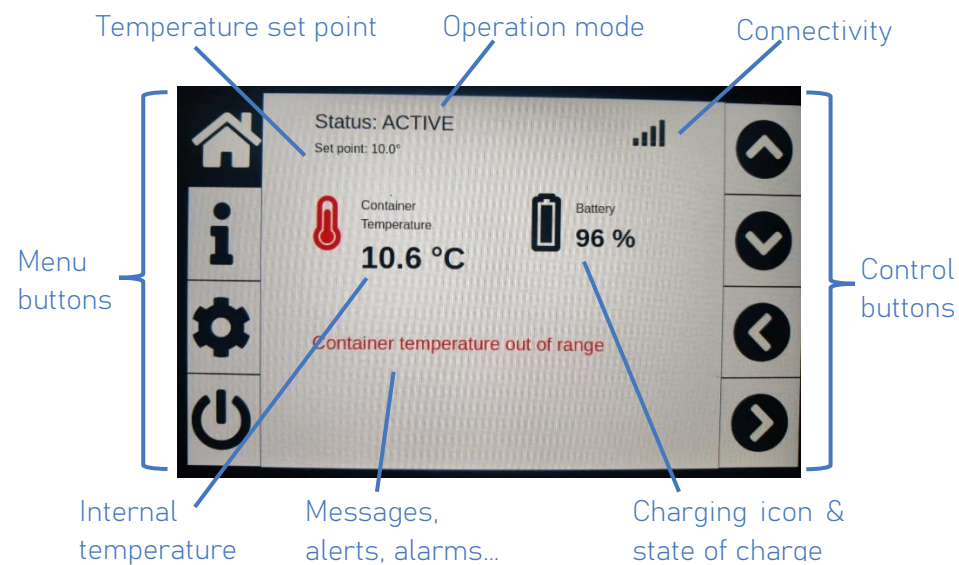

Figure 10 – HMI main page.
3. The main page will light up (**Figure 10**).